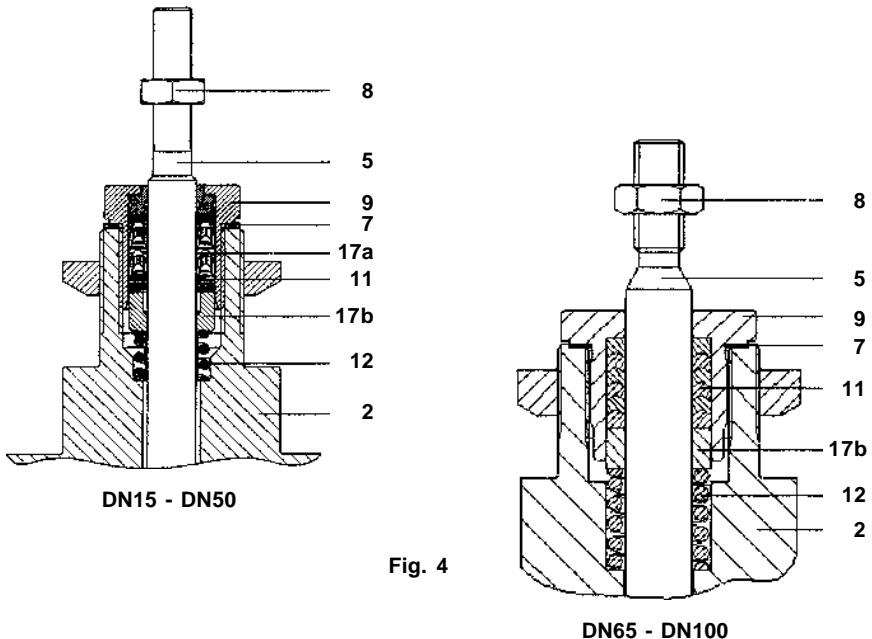

Fig. 4
- c) Remove the lock-nut (8).
- d) Unscrew the gland nut (9), withdraw the spring (12) from the stem; remove and discard the lower bush, gland seal set and the upper bush (17a + 11 + 17b), and the gland nut gasket (7).
- e) Examine the parts for signs of damage or deterioration and renew as necessary. Note that score marks or scaly deposit on the valve stem (5) will lead to the early failure of the seals. Clean the parts taking care to avoid scratching the stem or the inner surface of the gland nut. If the valve stem (5) needs to be replaced, see Sections 4.2.3 or 4.2.4.
- f) To renew the gland seal set, first fit the spring (12) over valve stem, and replace the gland nut gasket (7). The upper bush (17a only for valves DN15-DN50), the new gland seal set (11) and the lower bush (17b), must be firmly inserted into the gland seal nut (9), as indicated in Figure 4, care being taken to avoid damage to the sealing edges. Refit the gland nut (9) over the valve stem, screwing down with care to ensure the gasket is bedded down onto the bonnet. Tighten to the recommended torque as given in Table 1, page 15.
- g) Ensure the valve stem (5) moves freely.
- h) Refit the valve lock-nut (8).
4.2.3 Procedure for renewing valve stem, plug and seats on mixing valves (Refer to figures 4, 5 and 6)
4.2.4 Procedure for renewing valve stem, plug and seats on diverting valves (Refer to Figures 4, 5 and 7)